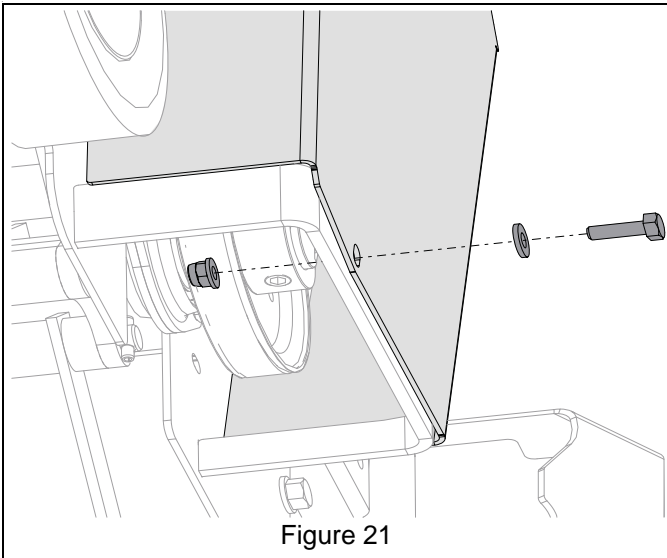

Figure 21
11. Secure belt shield with hardware removed earlier. See Figure 21.